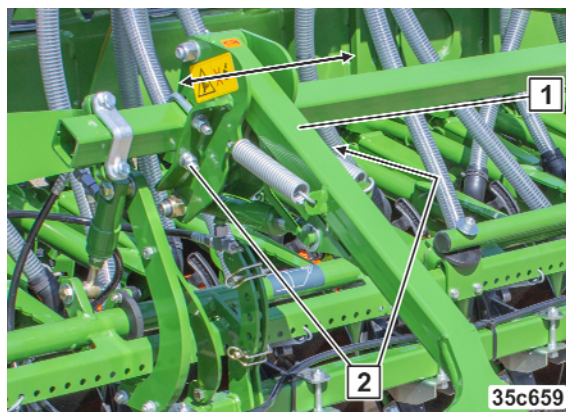

Fig. 219
1. Loosen the nuts (Fig. 219/1), but do not remove them.
2. Move the tramline marker (Fig. 219/2) to the desired position.
3. Tighten the nuts (Fig. 219/1).